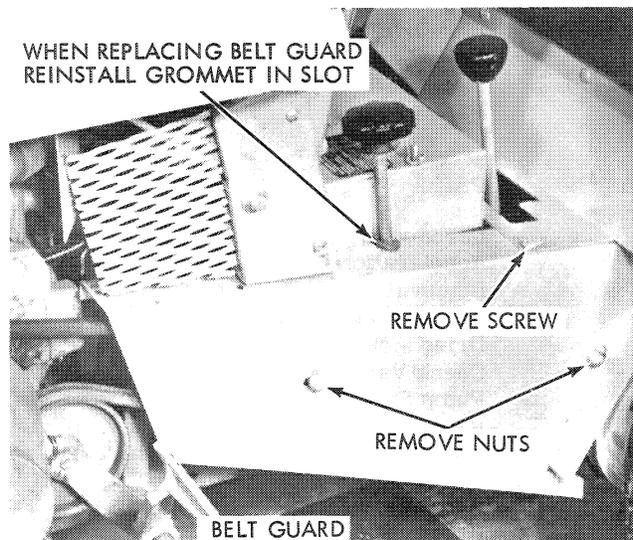

Figure 3
1. Remove rear guard over drive belt by removing the two acorn nuts and one slotted-head screw. (Fig. 3).
When replacing guard, take care to re-install rubber parking brake rod grommet in slot on upper parking surface of belt guard as shown in figure 3.
2. Remove the rear belt guard by removing the two acorn nuts from the side and the slot head screw from the top of the belt guard. (Fig. 3).